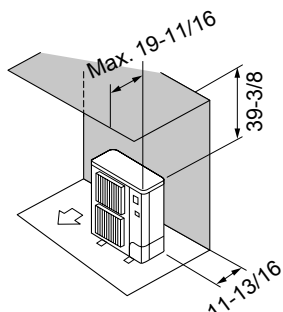

Fig. 2-7
- ② Obstacles at rear and above only (Fig. 2-7)